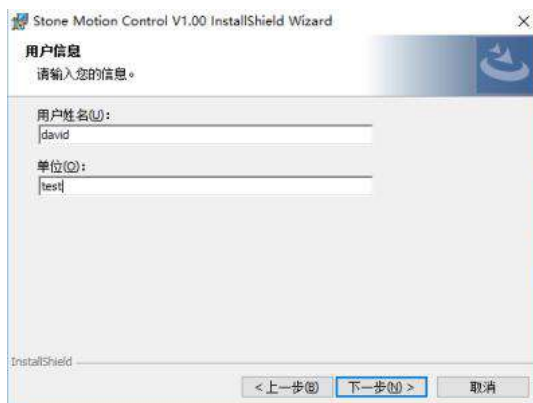

Figure 6-3 User information
4. Select "**I Agree**", click "**Next**" and enter the user information, as shown in Figure 6-3.